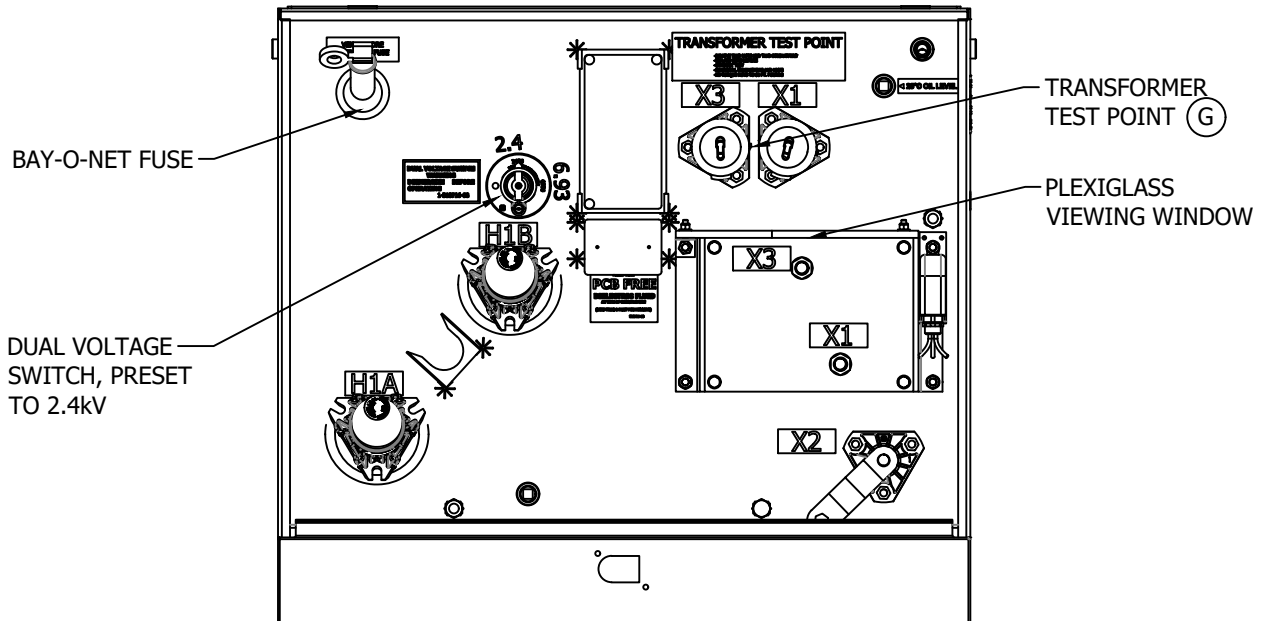

FIGURE 5
F. PRIOR TO CONNECTING SECONDARIES, CHECK THAT TORQUE MARKS ON SENCONDARY BOLTS ARE ALIGNED THROUGH THE PLEXIGLAS VIEWING WINDOW. SEE FIGURE 5.
(G) TO PERFORM TRANSFORMER PRE-TEST, DISCONNECT AND ISOLATE X3/X1 CONDUCTORS SHOWN IN FIG. 5. PERFORM TEST, THEN RE-INSTALL X3/X1 CONDUCTORS, AND TORQUE TO 50 FT. LBS. DO NO OVER/UNDER TIGHTEN.